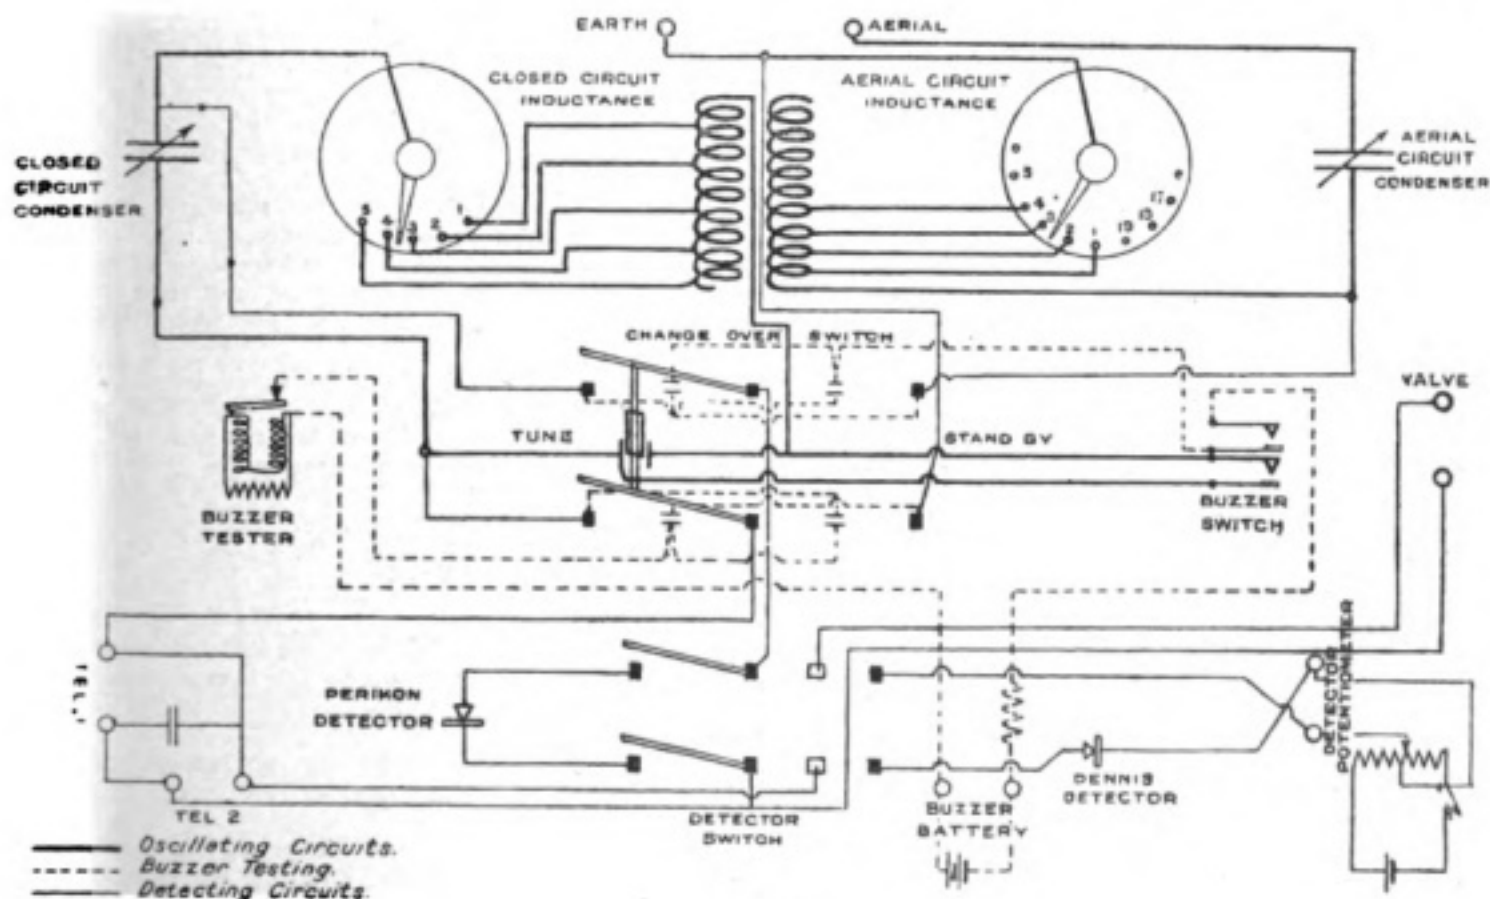

Fig. 7.
(2) Very doubtful with an indoor aerial.
(3) Make a separate inductance 4" in diameter and wind with 6" of No. 24 with a fewappings. Use with variable condenser only in series, and disconnect the plug condensers and all other inductances.
(4) No. 26 wire is too fine for the aerial. Use a single No. 18 wire. Also No. 30 wire is too fine for aerial inductances. The smallest gauge should never go below No. 26 for aerial circuits. Otherwise the circuit is good.
J.C. (Rotherham).—(1) Diagram Fig. 7 gives the circuit of the Mark III* short wave tuner.
(2) You cannot expect results with six layers of wire on a 2" diameter former. Make a 6" diameter former and wind with 10" of No. 24 enamelled wire and provide with a sliding contact.
(3) 4 volts is too much for a crystal without a potentiometer.
(4) Yes, 2,000 ohm telephones will do.
W.A.F. (Ealing).—(1) Probably because you have about ten times too much inductance and also probably resistance in the circuit. Also bury the earth plate much deeper.